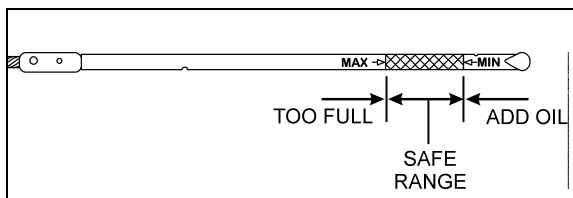

FIGURE 9: ENGINE OIL LEVEL DIPSTICK
9. Locate the A/C compressor belt tensioner pressure releasing valve (if so equipped). Turn pressure releasing valve handle counterclockwise in order to release pressure in belt-tensioner air bellows and loosen belts (Figure 9). Remove the belts.